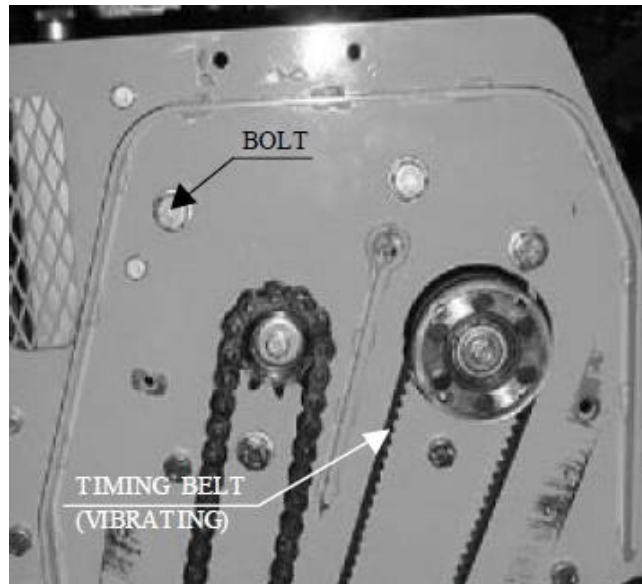

Figure 14-2
1. Loosen the four (4) bolts securing the gear case. Refer to Figure 14-2.